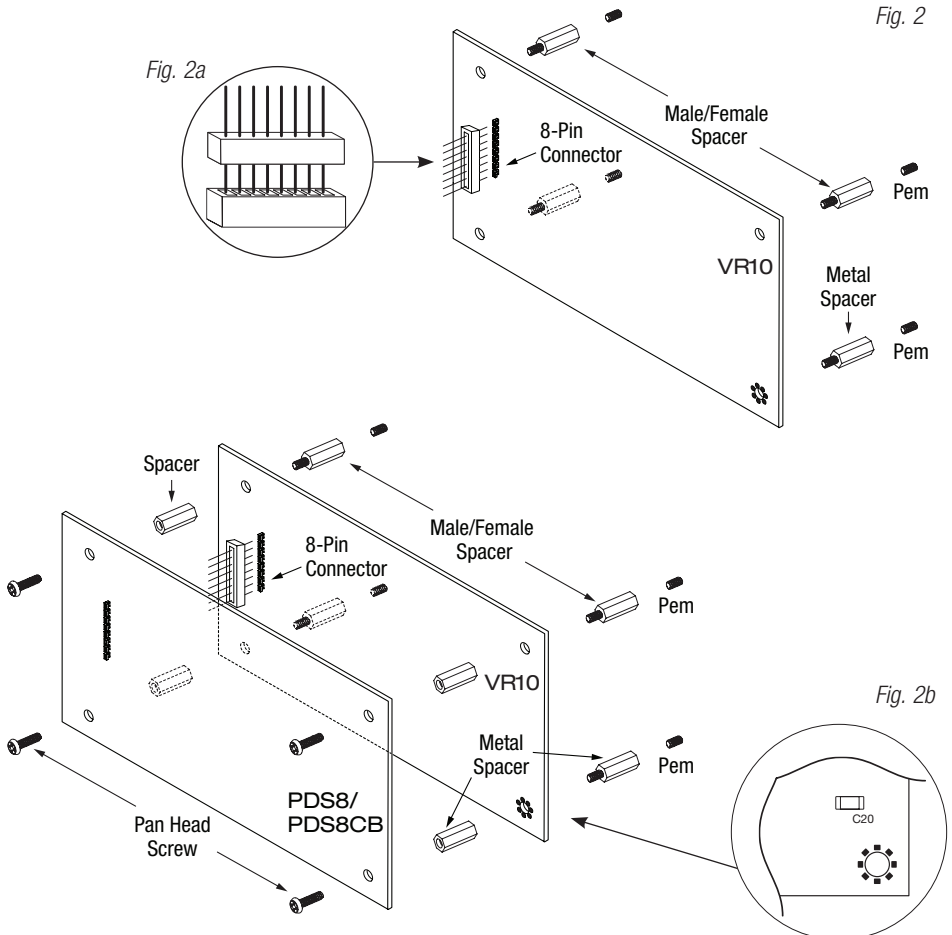

Fig. 3 - PDS8(CB)
6. Set each output (OUT1-OUT8) on PDS8/PDS8CB to route power from power supply 1 or 2 (jumper positions <1 OFF 2>) (Fig. 3, pg. 4).
8. Connect devices to terminal pairs 1 to 8, marked [P (Positive) - OUT1-OUT8, N (Negative)] (Fig. 3, pg. 4).